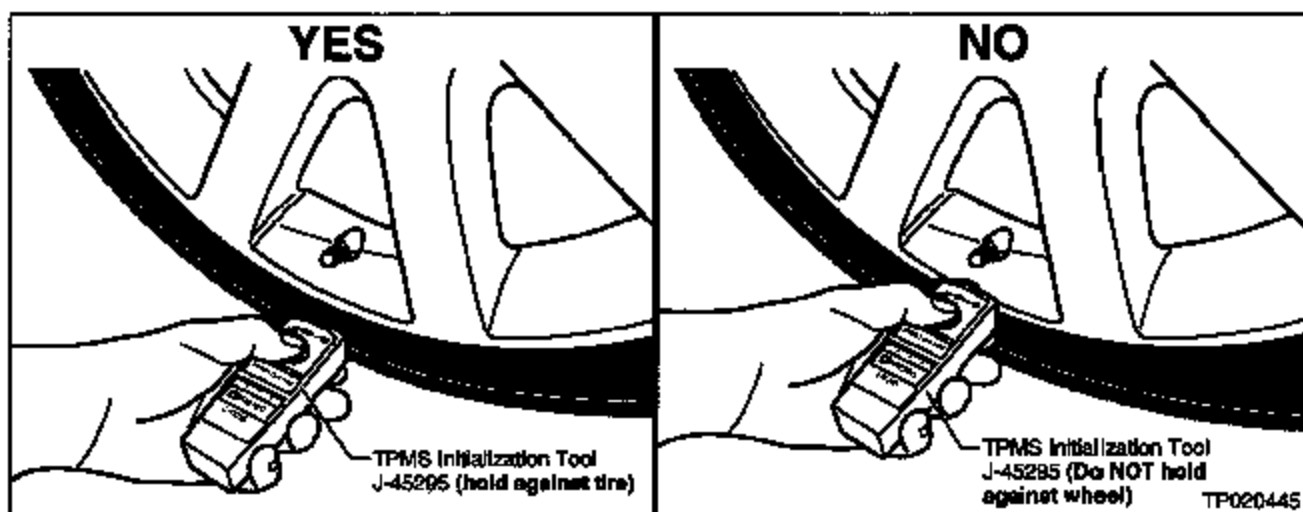

Figure 4
4. Position the TPMS Initialization Tool on the tire and center it with the valve stem (see Figure 4).